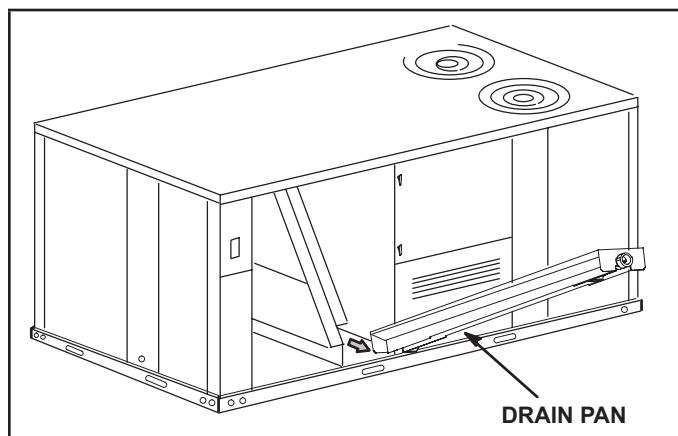

FIGURE 7
- 5 - Lift front edge of the drain pan (to clear bottom drain plug) and slide drain pan out of unit. See FIGURE 7.